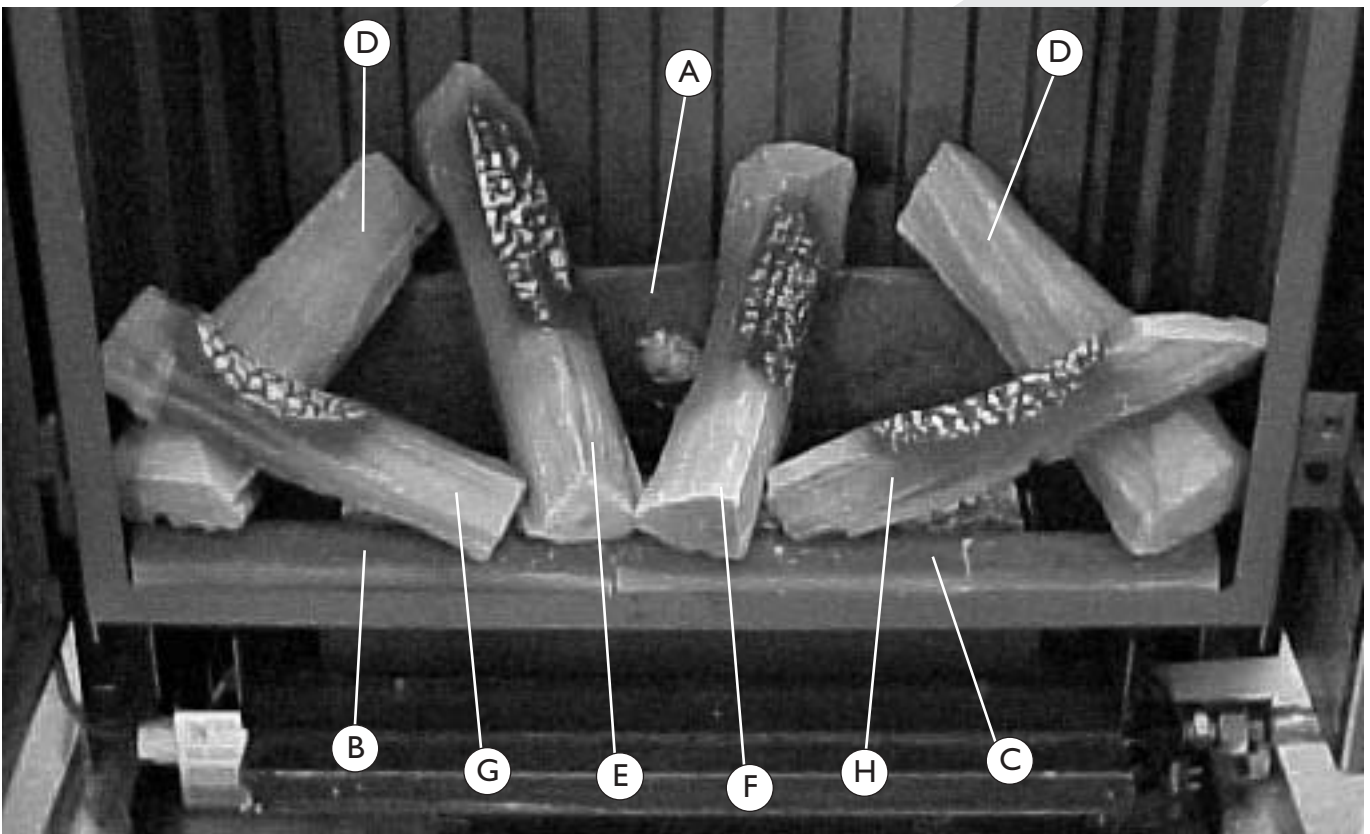

fig. 4
- Lay the large log (A) against the back wall, on the log supports, with the yellow side down and the knot towards the left.
- Lay the front logs (B and C) with the bark facing up, as illustrated in fig. 4.
- Now lay the rest of the logs (D, E, F, G and H) in place as illustrated in fig. 4.